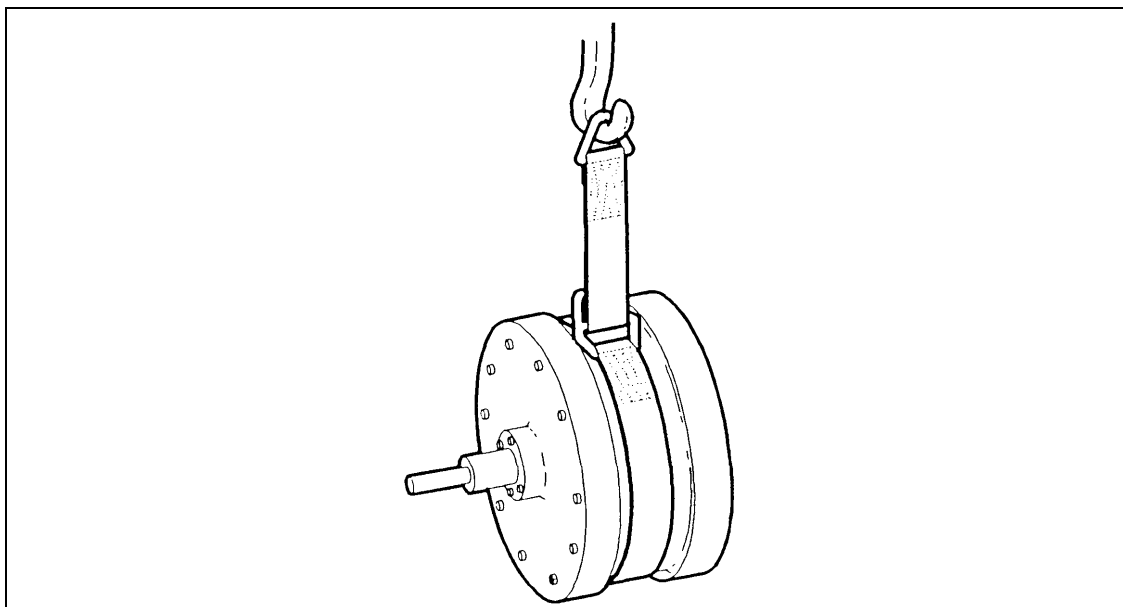

Figure 4.1.4
4.1.7 Remove Gearbox (Fig. 4.1.4)
ATTENTION When removing or installing the gearbox, always suspend it from a hoist or the like to avoid excessive load to the splined shaft. Use the lifting sling* as shown in Figure 4.1.4.
4.1.8 Install Gearbox (Figs. 4.1.4 and 4.1.5)